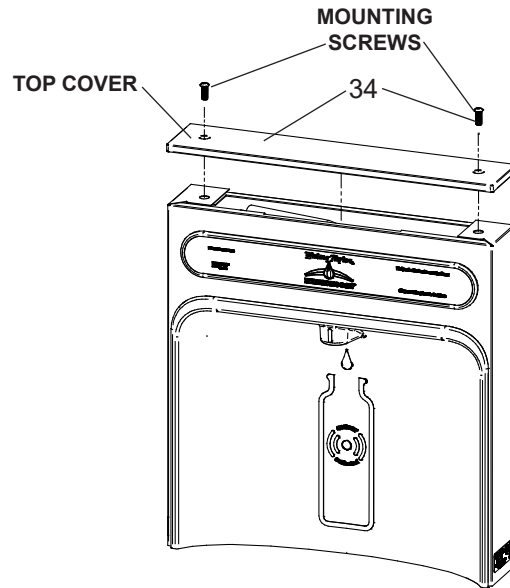
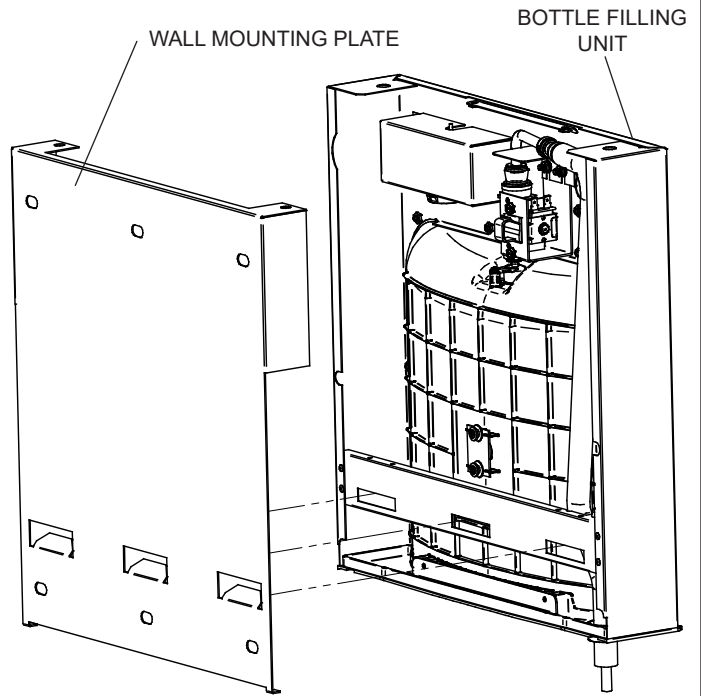

Fig. 7
Fig. 11
- 1) **Remove two (2) mounting screws** with 5/32" Allen wrench holding top cover to Bottle Filler (See Fig. 7). Remove top cover. Note do not discard mounting screws, they will be needed to reinstall top cover.
- 8) **With the power cord and waterline through hole** on top of water cooler place Bottle Filler on the three (3) angled tabs protruding from the wall mounting plate installed on wall. Make sure round boss in gasket fits in hole of basin. (See Fig. 11).
- 9) **Once Bottle Filler is installed on wall plate tabs,** water line and power cord are installed properly, push top of Bottle Filler toward wall and line up top cover two (2) holes.
- 10) **Reinstall Top Cover on Bottle Filler** (See Fig. 7) with two mounting screws from step 1 above. Caution, do not over tighten screws.